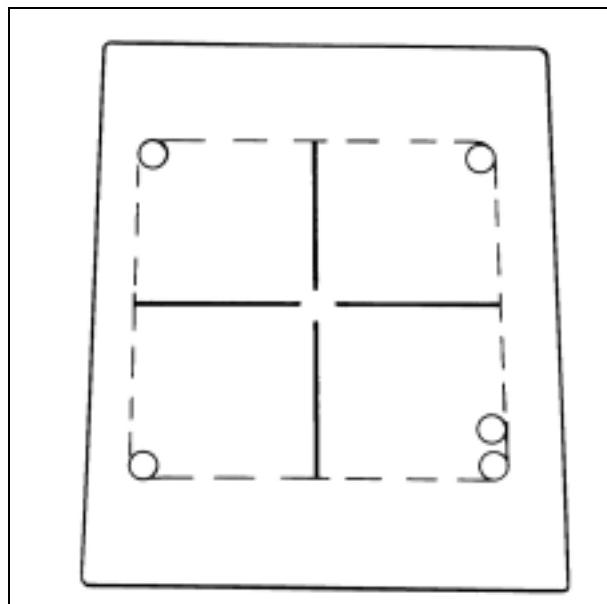

Fig. 7
- Mark the four corners with coins and mark one of the corners with two coins, see Fig. 7.